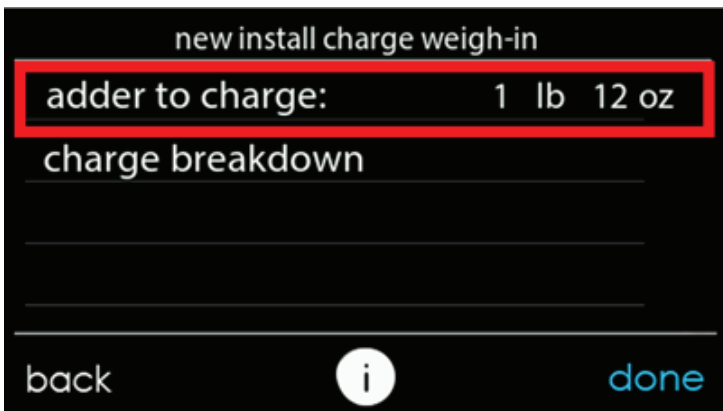

Fig. 19 – Additional Required Charge for New Installation A200038
13. The "new install charge weigh-in" screen will show the additional charge that needs to be added to the system to account for the ID coil and line set (see Fig. 19).